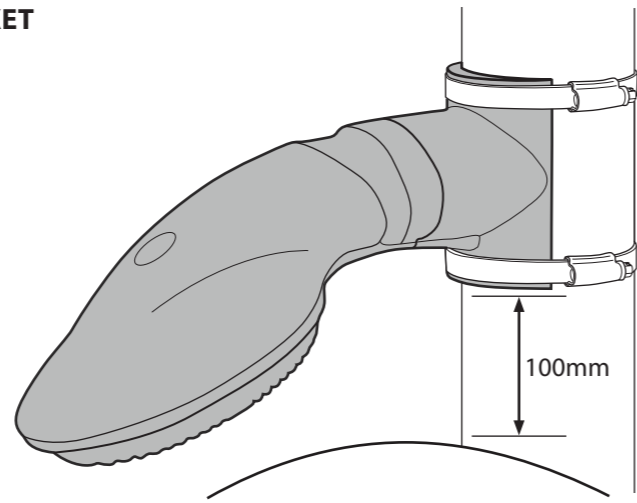

FIG. 9
- Tighten Tamtorque banding around the post and Universal Bracket at the top and base. The banding will fit into the grooves in the bracket as shown in Fig. 9.